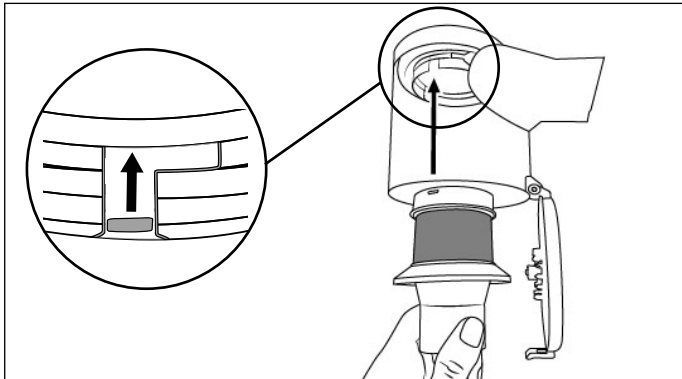

Fig. 21
- 7) Insert the stainless steel filter **11** into the dust container **7** and turn it anti-clockwise until it snaps into the dust container **7**. While doing this, pay attention to the locks on the stainless steel filter **11**. These locks ensure that the stainless steel filter **11** can only be inserted in a specific position along the locking rails of the dust container **7** (see Fig. 21 and 22).